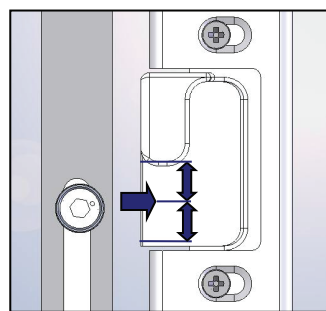

Fig 2.
- Individual rollers / mushrooms should enter their keep 'mouth' centrally when closing the door – **Fig 2.**